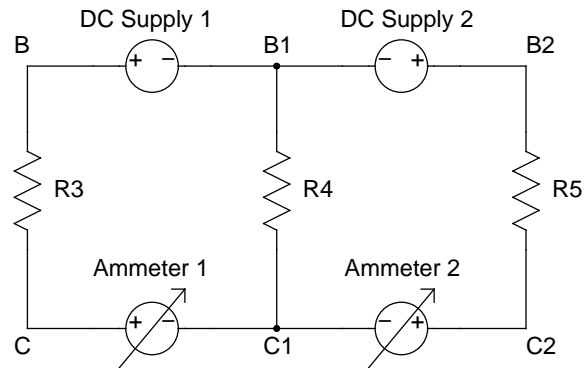

Figure 5: The circuit used in Section 4.2 to study Kirchoff's Loop and Junction Rules.
For this section, you will use the circuit in Figure 5; note that you will *still* not use all of the resistors on the board.
4. Write a junction equation for the point  $B_1$  of Figure 5. Make clear your conventions for currents
5. Write a loop equation for the loop  $BB_1C_1CB$  of Figure 5.